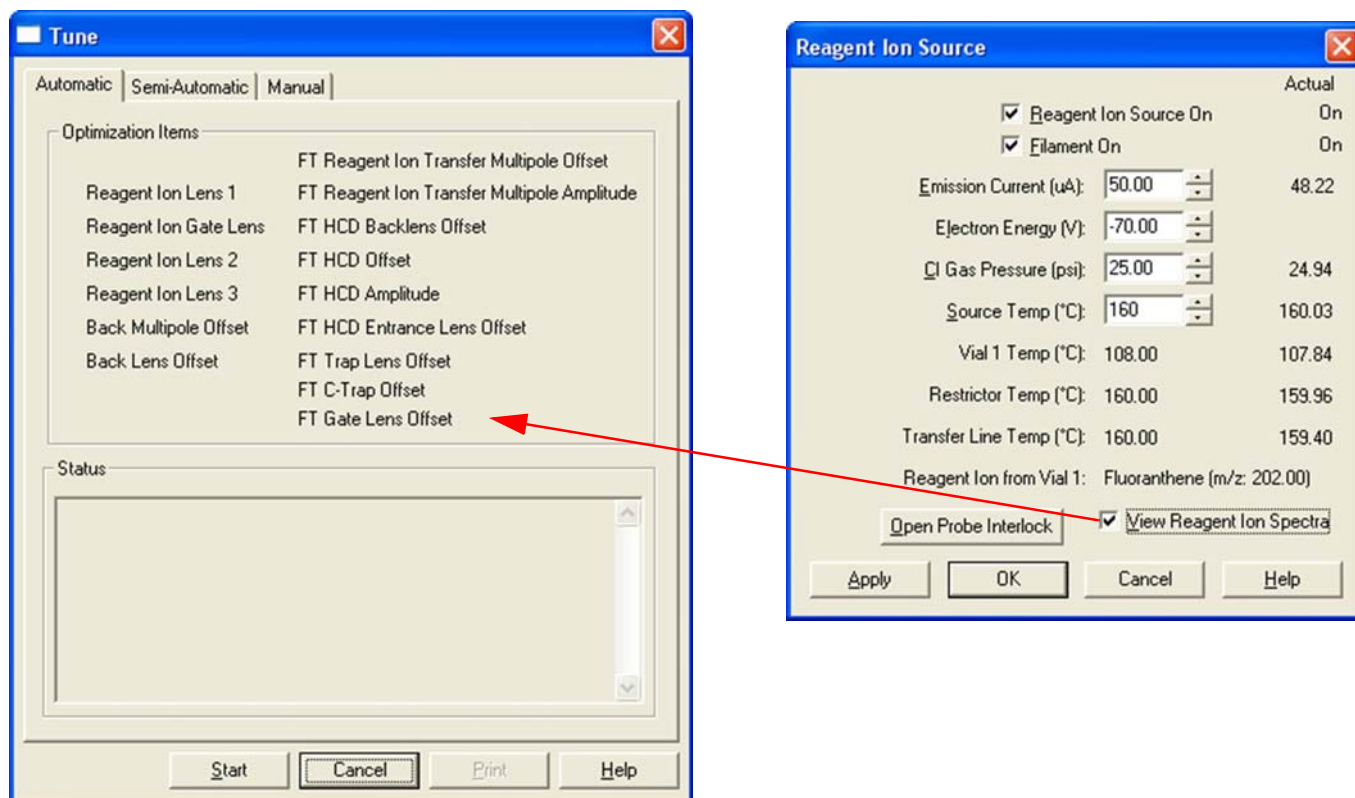

Figure 7-11. Activating Reagent Ion Source tuning
- In the Reagent Ion Source dialog box, select the **View Reagent Ion Spectra** check box. (See Figure 7-11.)
The Tune dialog box opens with the Automatic page shown by default (Figure 7-11 on page 7-13).